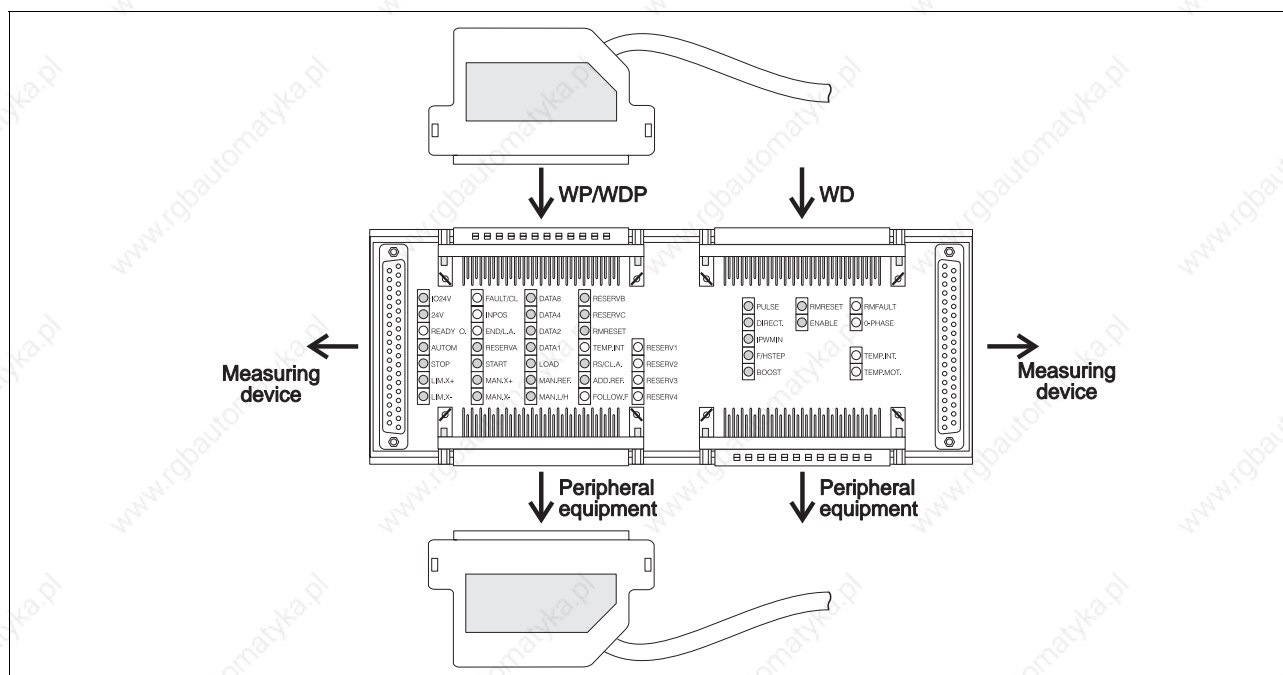

Figure 6-13 Initial Operation of Interface Tester D690
2. Connect the Interface Tester D 690 in line with the cable between WP/WDP or WD equipment and periphery, see figure 6-13.